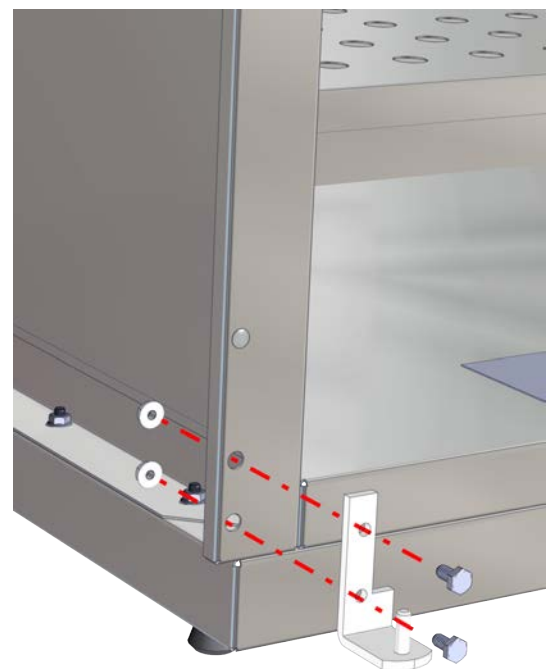

Fig. 65: Install Bottom Hinge in New Position
7. Attach the bottom hinge in the new position to the bottom of the unit using the hardware provided (Fig. 65).